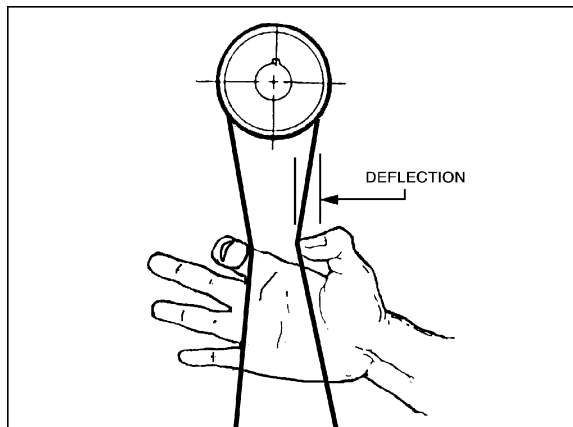

Figure 10
2. There should be a small amount of deflection in the belt when pressing it midway between the pulleys with moderate finger pressure (Figure 10).